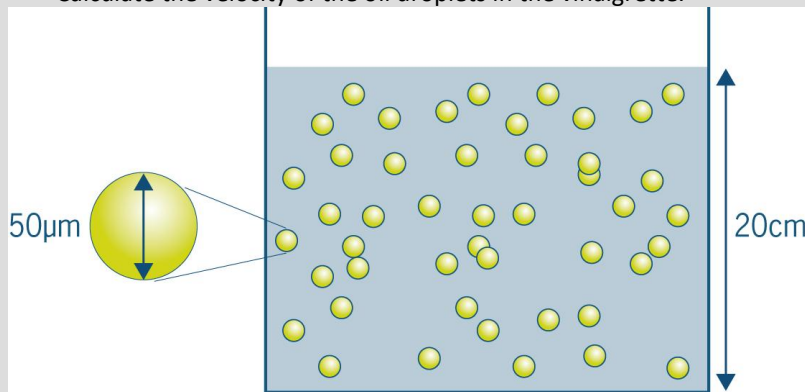

Figure 47 Vinaigrette
3. The chef would like to know how long the vinaigrette can be left to stand before it separates. For this you need to know the velocity of the oil droplets in the vinaigrette. The oil droplets in the vinaigrette have a diameter of  $50\ \mu\text{m}$  (Figure 47). The viscosity of water is  $1 \cdot 10^{-3}\ \text{Pa s}$ . Calculate the velocity of the oil droplets in the vinaigrette.